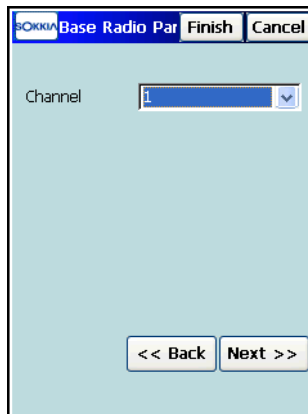

Figure 4-12. Parameters for the FH915 Modem
- For FH915 modem (Internal Hiper® Lite), set the operating channel of the modem (Figure 4-12).